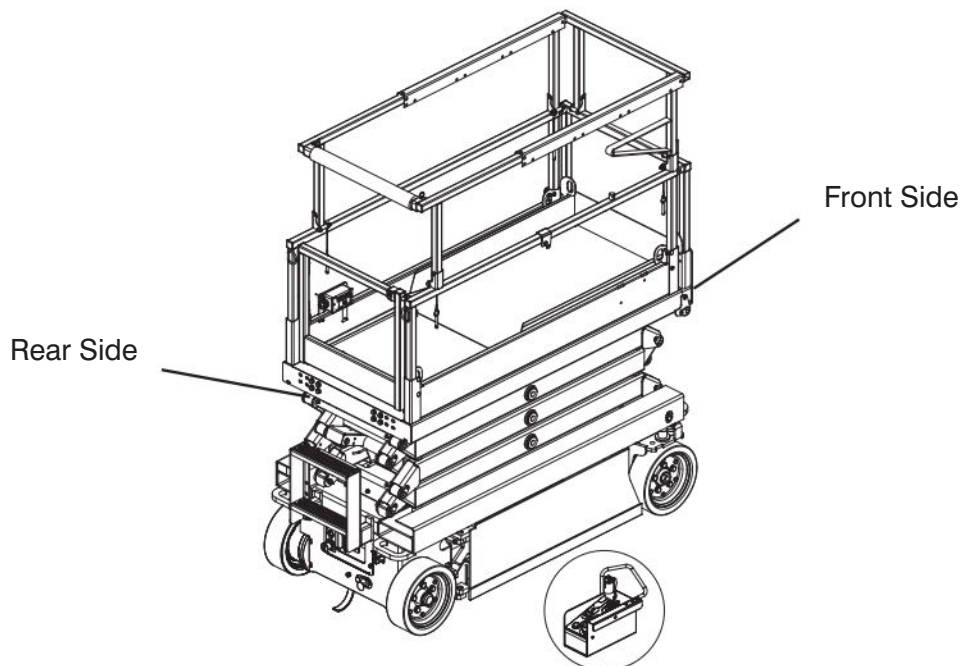

Figure 3-10. Control Box with Long Cable Outside Platform
- Ensure the operator and control box console are properly oriented in the direction the aerial platform is facing (see Figure 3-10).